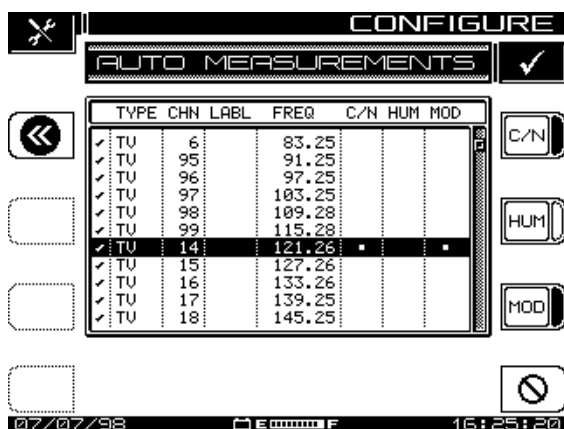

Fig. 3-12 The Auto Measurements Screen
1. Select Specify Auto Measurements from the CHANNEL PLAN menu and press the Continue soft key. The screen shown in Fig. 3-12, AUTO MEASUREMENTS, appears.